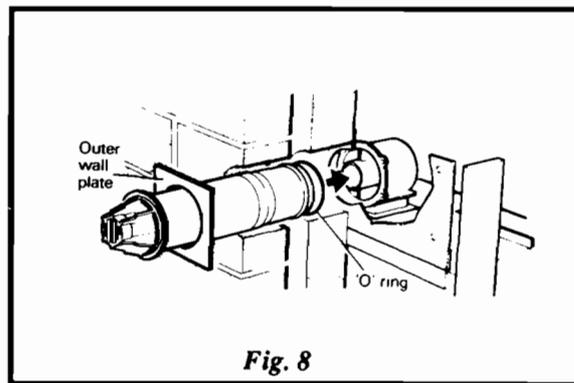

Fig. 8
14.6 Fit the flue/terminal assembly - see Fig. 8 (rear flue).